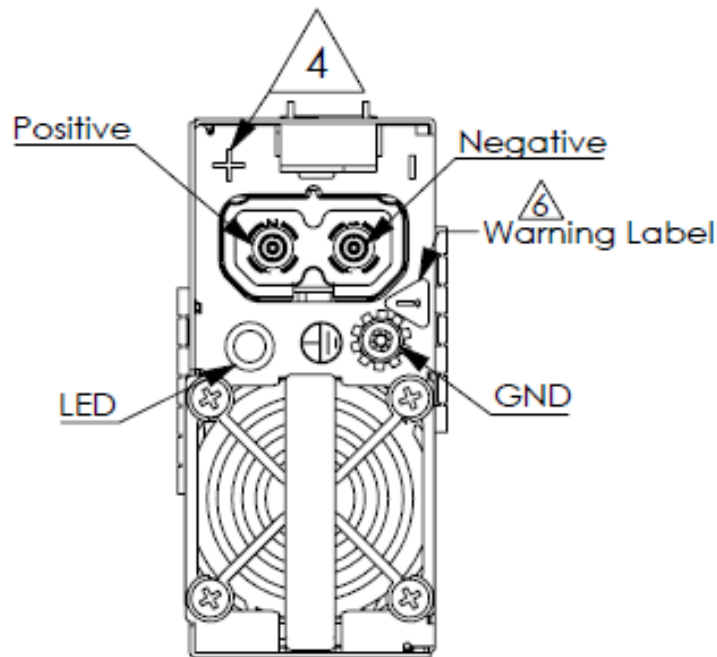

Figure 24: Front view of 1600 W DC PSU
3. Connect the ground wire to the grounding point on the power supply, which is labeled GND. See Figure 24.